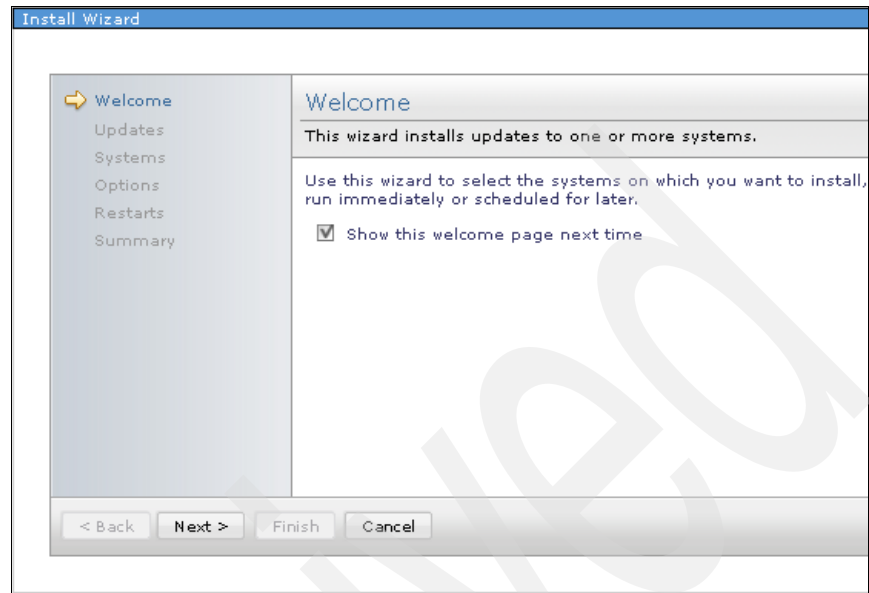

Figure 3-18 Welcome page of the installation wizard
12. In the Welcome section of the installation wizard, click **OK** (Figure 3-18).